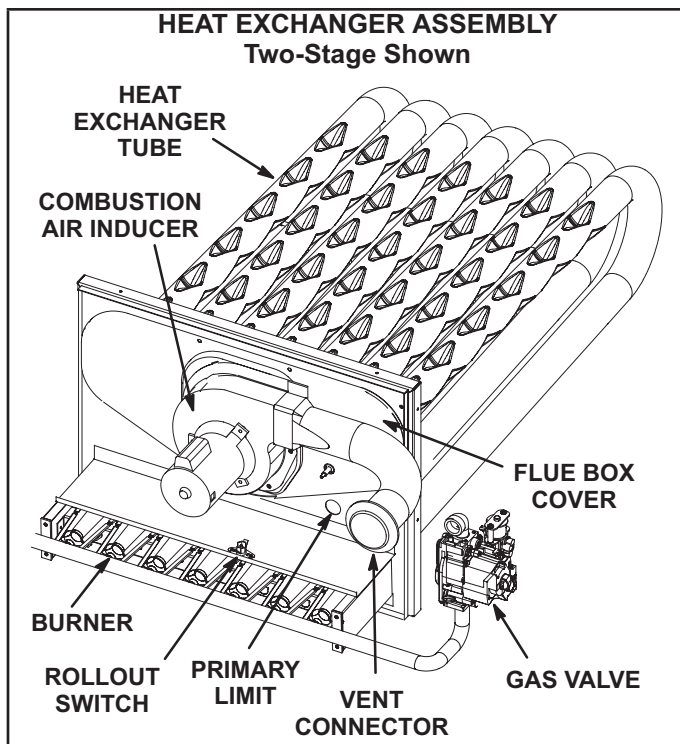

FIGURE 35
Limit controls are factory-set and are not adjustable. The primary limit is located to the right of the combustion air inducer. See FIGURE 35.
- 4 - Remove and retain screws securing combustion air inducer to flue box. Remove vent connector. See FIGURE 35.